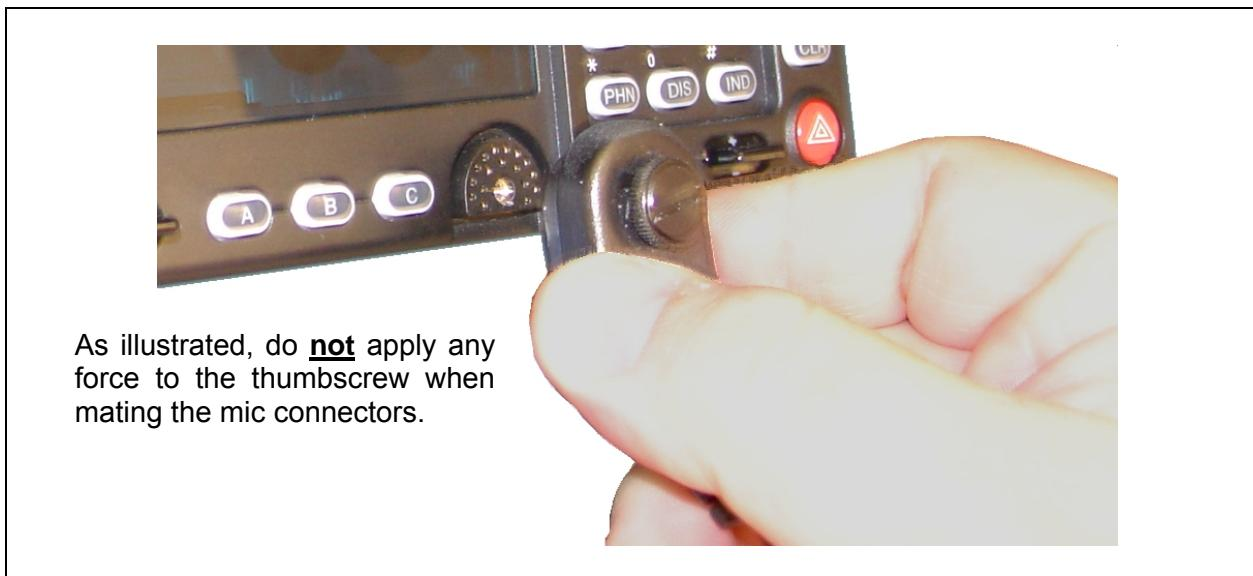

Figure 10-1: Attaching the Microphone to the Control Head (CH-721 shown)
1. As illustrated in Figure 10-1, grasp the mic's connector with a thumb and index finger on the sides of the connector just adjacent to the thumbscrew.